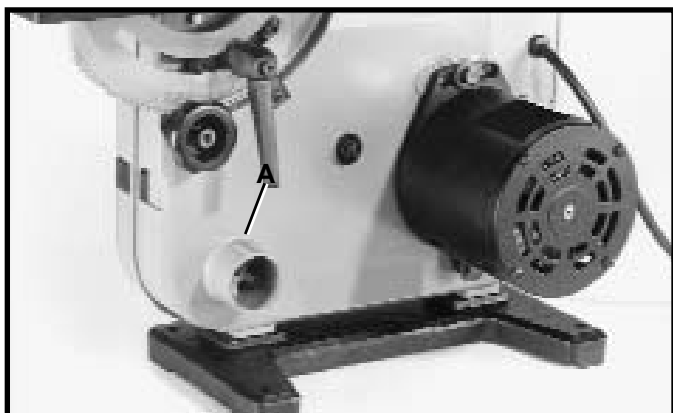

Fig. 37
A dust collection system can be attached to the 1 $\frac{3}{4}$ " O.D. dust chute (A) Fig. 37.